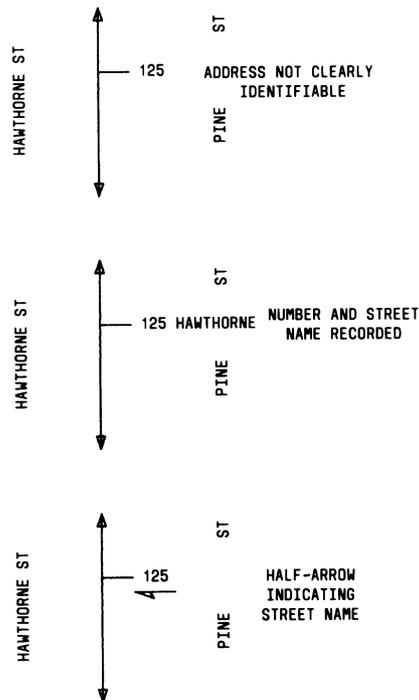

Fig. 6—Optional Method of Recording Terminal Address
**3.09** Many times, due to congestion or other restriction of space, the street name where a terminal is addressed is not clearly identifiable and both the terminal number and street name must be shown. A line with a half-arrow pointing to the applicable street eliminates the need to include the street name with the terminal number. (See Fig. 6.)